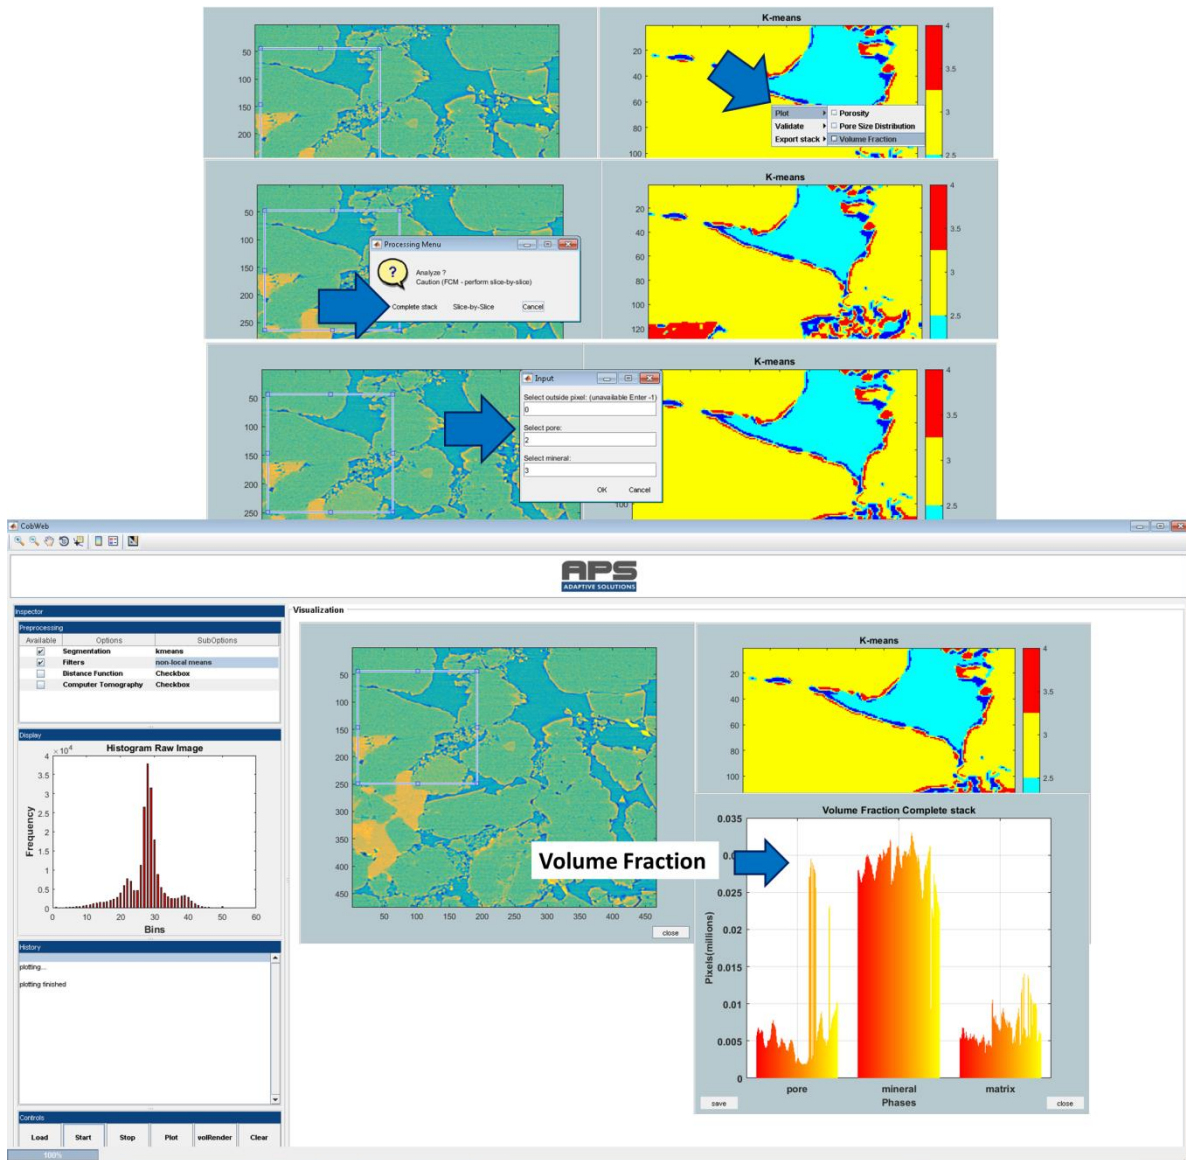

Figure 39: Volume fraction of complete stack
- Figure 39 (top, middle and bottom panels) shows the steps to retrieve the volume fraction of the REV. In this case, the plotted image cannot be saved in the desired file format due to technical limitations.